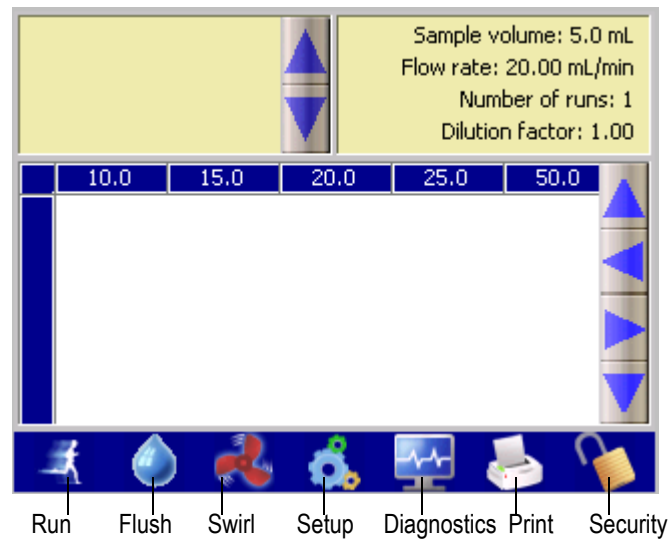

Fig 2-5 : Main Screen
- 8) Turn the unit on. The **Main Screen** should appear, similar to the one shown in Figure 2-5.